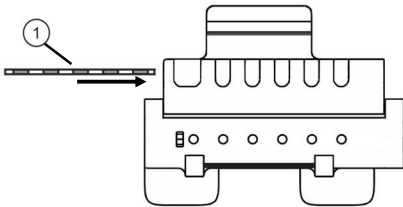

Fig. 1: Block in the Open Position
2. Ensure that the connection block is in the open position. See **Figure 1**.